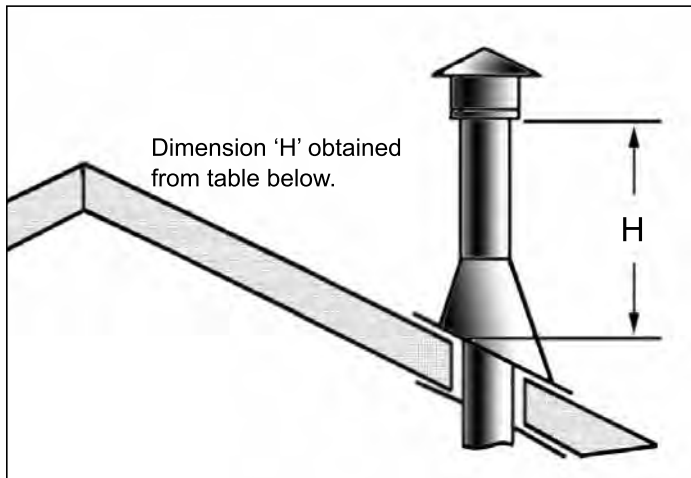

Figure 38: Height of Vertical Termination; Reference Table 8.
8. Continue to add pipe sections until the height of the vent cap meets the minimum code requirements. Refer to Figure 38 and Table 6. Note that for steep roof pitches, the vent height must be increased. In high wind conditions, nearby trees, adjoining roof lines, steep pitched roofs, and other similar factors can result in poor draft, or down drafting. In these cases, increasing the vent height may solve the problem.
Table 8: Minimum 'H' for Figure 38.